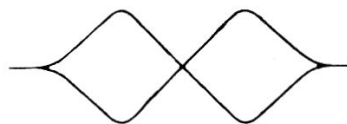

FIG.3
- (1) Disconnect the green lead with spade lug attached, from the terminal plate which is mounted on top of the chassis just in front of the 6H6 tube.
- (2) Connect oscillograph input to this green lead.
- (3) Adjust C50 to produce an image showing two complete cycles 180 degrees out of phase (see Figure 3 below).